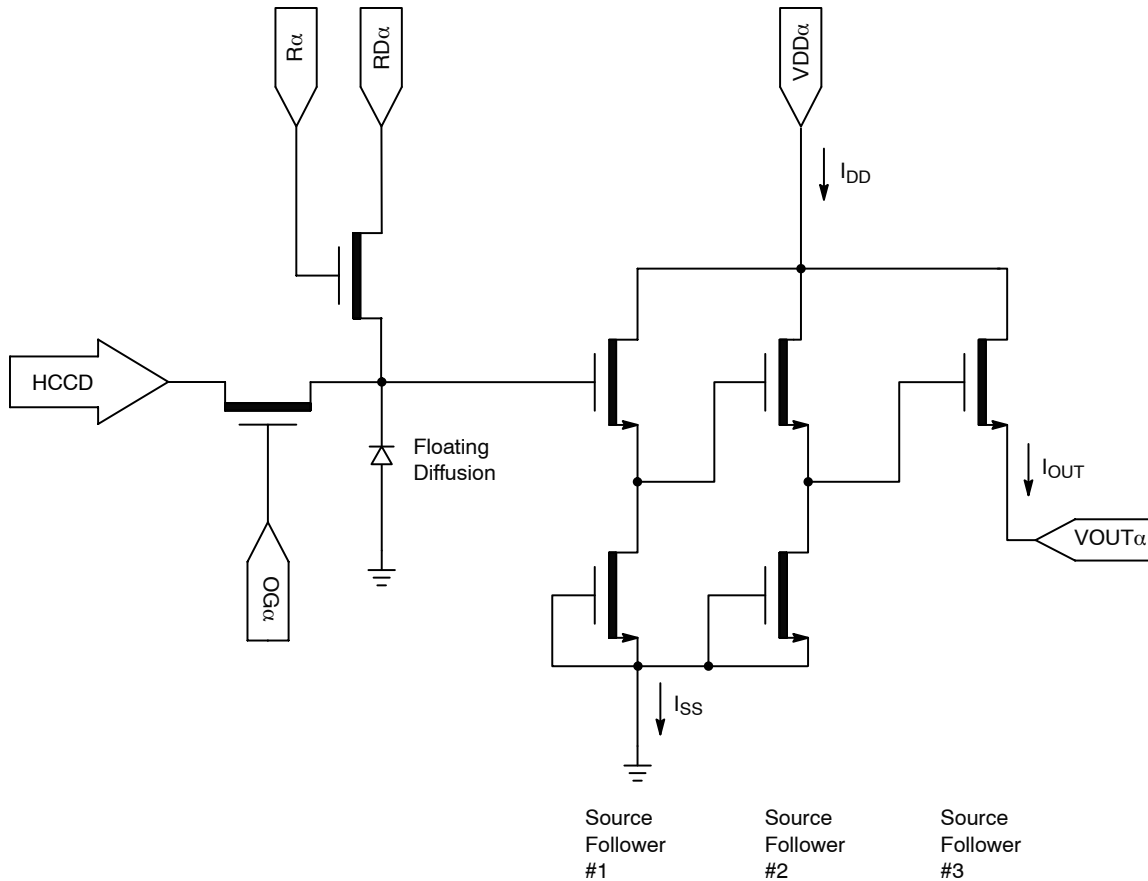

Figure 18. Output Amplifier
2. The maximum DC current is for one output.  $I_{DD} = I_{OUT} + I_{SS}$ . See Figure 18.